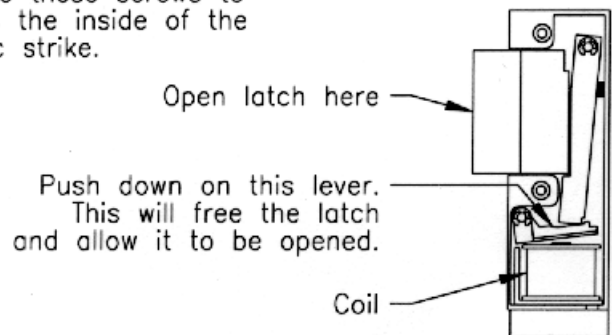

Fig. 3
- 5) Open the latch (Fig. 3) and push it through the case. Remove the latch entirely.
- 1) Slightly dampen a cotton swab with rubbing alcohol, rub the cotton swab against the smart chip (Figure 3) cleaning any dirt that may have accumulated.